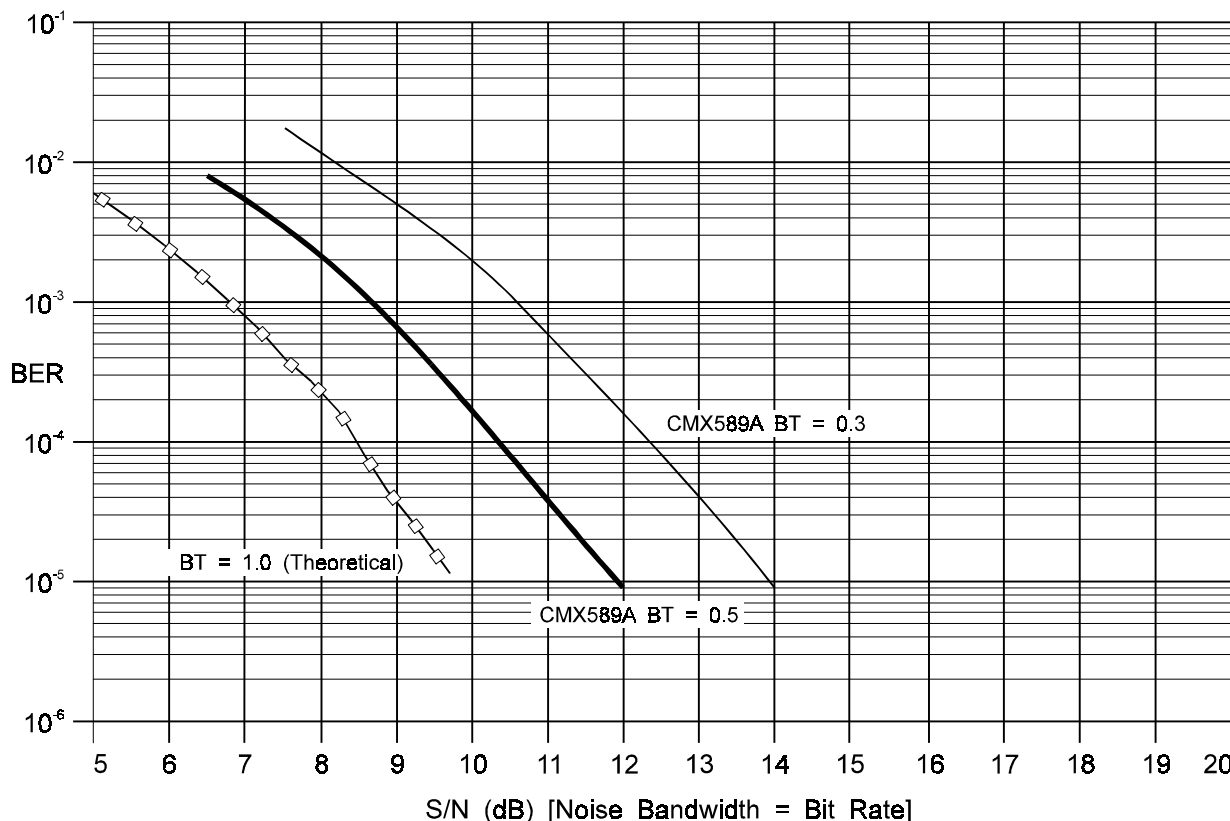

Figure 6: Typical Bit-Error-Rate Performance at VDD = 5.0V
**Note:** Figure 6 indicates typical performance, independent of bit rate (although the applied noise bandwidth is considered to match the bit rate used), radio performance (e.g. IF filter distortion), supply voltage (higher bit rates require VDD ≥ 4.5V), and other 'real world' factors.